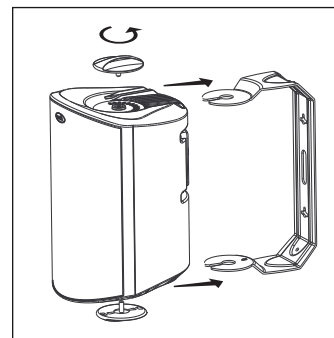

FIGURE 10: Turn the bracket knobs to remove the bracket assembly.
4. Using the keyhole slots in the bracket as a template, mark the installation location of the two keyhole slots with a pencil. You can do this by removing the bracket knobs on the top and bottom of the speaker and removing the bracket [figure 10].